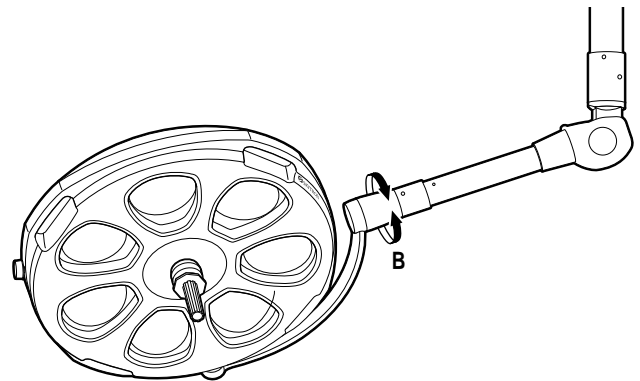

Figure 2-4. Model 29 Lighthead Roll
a. Check the roll axis tension of the model 29 lighthead by moving it through its full 360° range of travel. See figure 2-4.